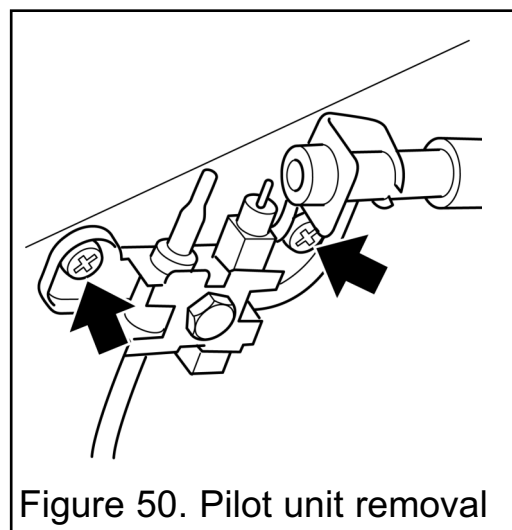

Figure 50. Pilot unit removal
6. Remove the two screws securing the pilot unit (See figure 50).